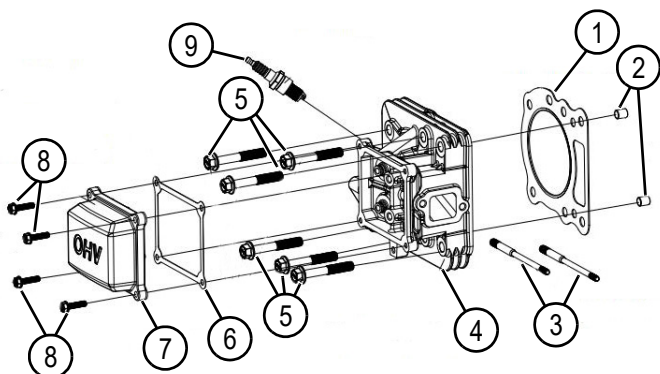

Figure 4-13: Cylinder Head Assembly
1. See Figure 4-13. Remove engine cover from the engine.